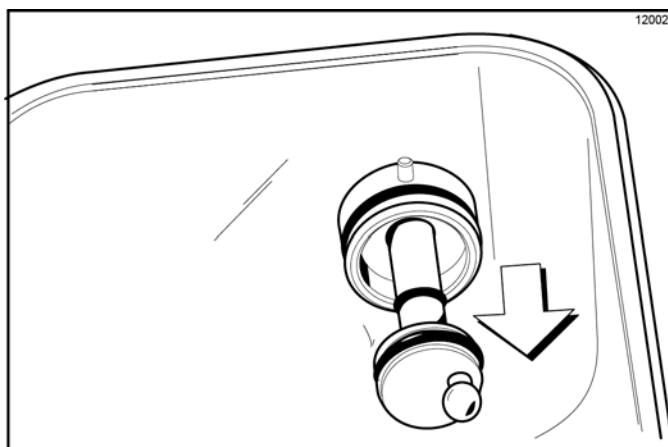

Figure 6-120
- Remove the pump driveshaft from the drive hub in the rear wall of the mix hopper. (See Figure 6-120.)